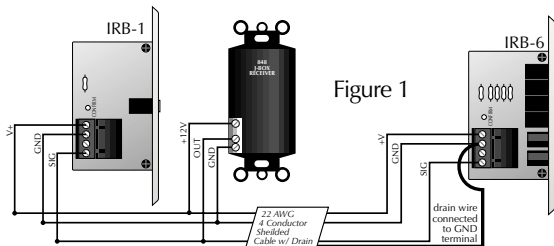

Figure 1
- 1) Run 22 gauge, 3 or 4 conductor, shielded cable with drain wire, such as Russound Pt. No. AW2260AB, into a standard electrical junction box as shown in Figure 1.
- 3) Connect the wire to the +V, GND and SIGNAL (SIG) connections of the IRB-1 as shown in Figure 1. Please note that the STATUS connection does not need to be connected.
- 4) Connect the other end of the wire to the IR system's main connecting block, such as Russound Pt. No. IRB-6, as shown in Figure 1. Make sure that the drain wire of the cable is connected to the GND terminal of the input connector on the IR system's main connecting block. The drain wire does not need to be connected to the ground connection of the IRB-1.